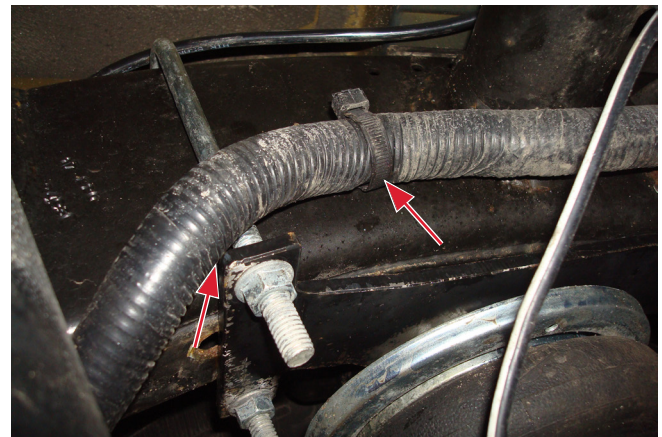

Fig. 10
3. On some models it may be necessary to move the wiring harness inside of the passenger's (right) side frame, forward of the axle, away from the corner of the upper bracket (Fig. 10). Pull the Christmas tree hanger away from the frame and the bracket and then zip tie the harness to the crossmember above the axle.
Fig. 10 shows an acceptable installation. No further modification is needed unless interference is more direct.